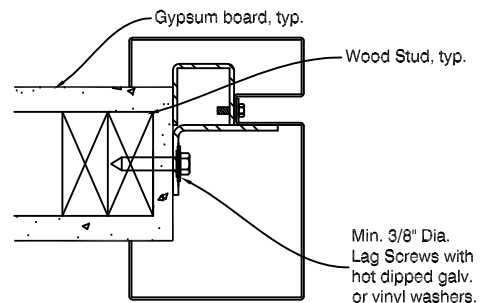

Fig. 11
**! IMPORTANT !** Determine your mounting configuration to ensure compliance with fig. 3 through fig. 11, for proper mounting conditions, in accordance with NFPA 80 (latest edition)
e. When fastening to a double(2) wood stud jamb, each stud is to be a min. 2"x 4". Fasten using a min. of 3/8" dia lag screws, as shown in Fig. 11.